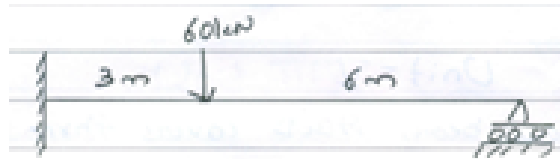

Figure 2
7. (a) A propped cantilever beam is subjected to a concentrated load of 60kN at 3m from end 'A' as shown in Figure 2. Draw BMD and SFD by method of consistent deformation method. Assume that flexural rigidity of beam is constant throughout its length. [7M]